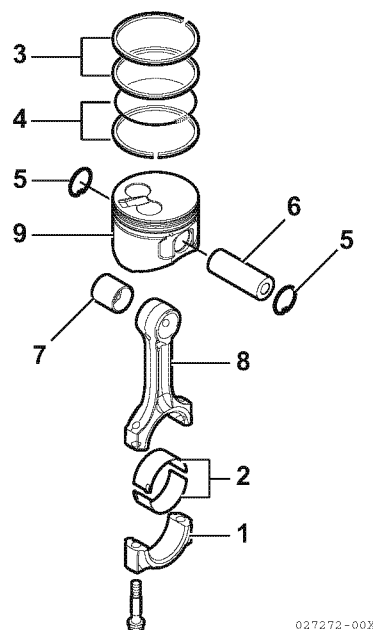

Figure 6-83
5. Lubricate and install the wrist pin (**Figure 6-83, (6)**) through the piston and connecting rod.
6. Install the second circlip (**Figure 6-83, (5)**) and ensure it is securely seated in the groove.